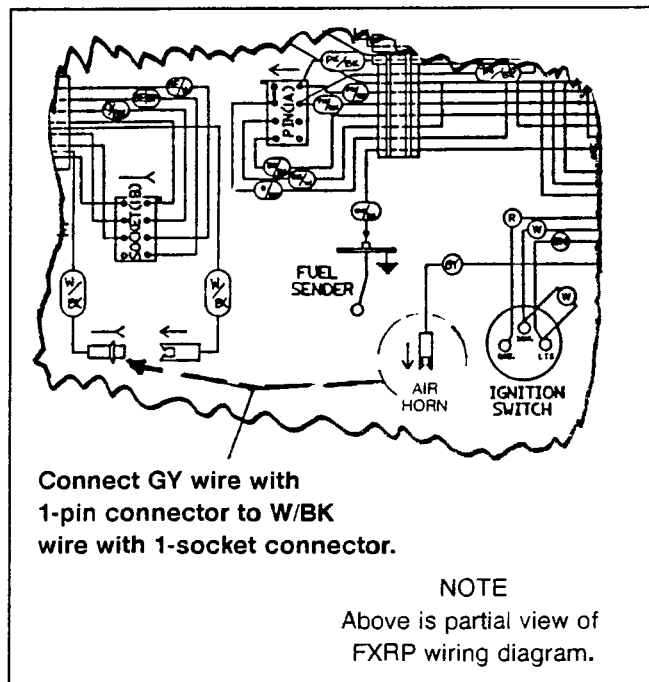

Figure 1. FXRP Air Horn Connection
2. See Figure 1. Locate the white/black (W/BK) wire with a 1-place connector and the gray (GY) air horn lead on the fuel tank.